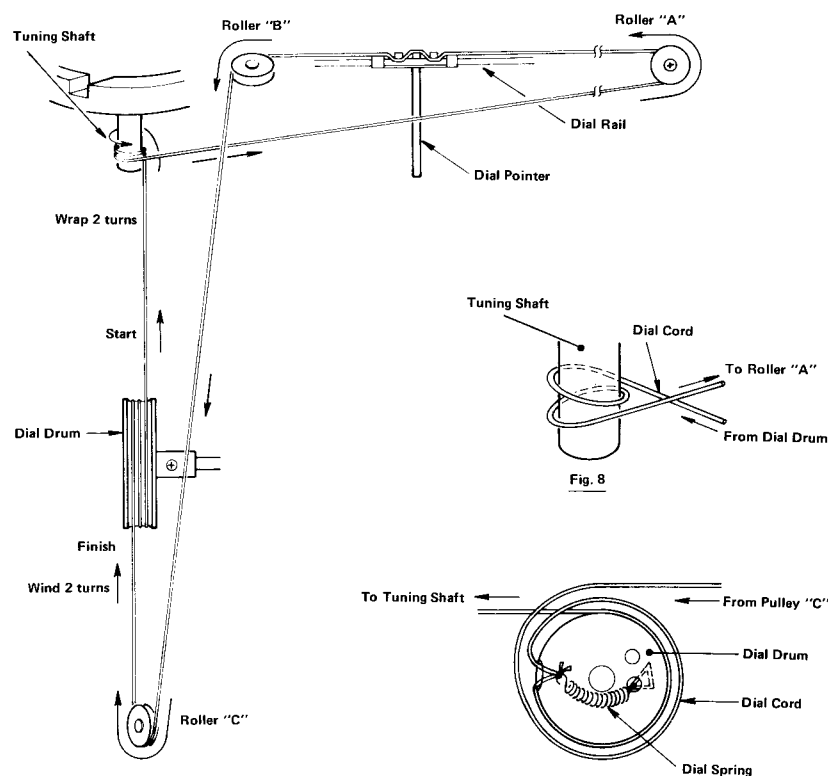
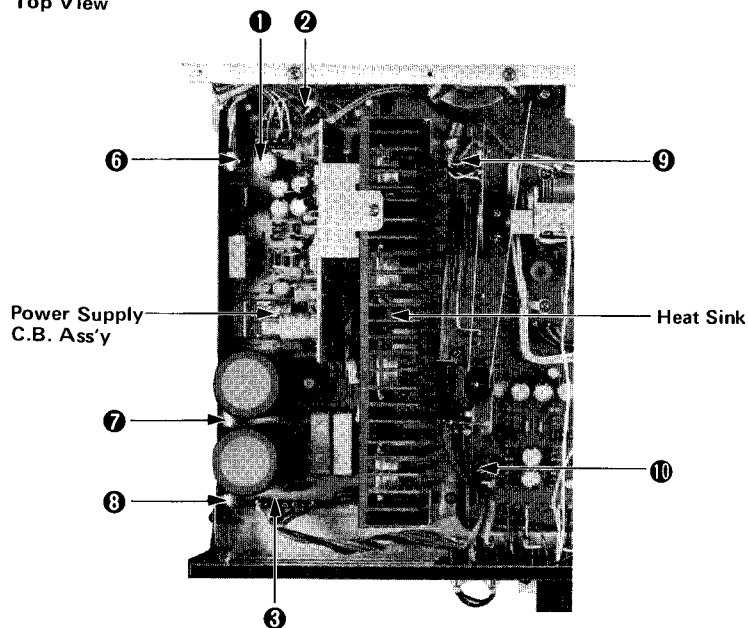

Fig. 9
Fig. 10
- (1) Remove heat sink and power supply C.B. ass'y, see Figs. 10 & 11.
- (2) Remove dial pointer and old dial cord.
- (3) Tie end of new dial cord to one end of dial spring, connect other end of dial spring of bottom right eye inside dial drum, see Fig. 9.
- (4) Rotate the tuning capacitor dial drum to its maximum clockwise.
- (5) Run the dial cord through the slot in the rim of the dial drum.
- (7) Guide the dial cord under and around roller "A", around rollers "B" and "C". Keep the dial cord taut during this procedure.
- (8) Guide the dial cord over the dial drum and wind 2 turns counterclockwise. See Fig. 9.
- (9) Turn the tuning shaft to rotate the dial drum fully counterclockwise and fully clockwise to distribute the tensioning along the dial cord.
- (10) Place the dial cord over and under the tabs on the rear of the dial pointer (see detail) and place the pointer on the top of the dial panel rail.
- (11) Turn the tuning shaft clockwise. Slide the dial pointer to zero (0) calibration marker on the logging scale while holding tuning shaft fully clockwise. Cement the dial pointer to dial cord to prevent slippage. Allow cement to dry thoroughly.
- (12) Reinstall the heat sink and power supply C.B. ass'y. Reconnect all plugs (removed previously) to their respective sockets.
- (13) Check dial calibration. Refer to FM/AM alignment.
- (14) Replace top cover.